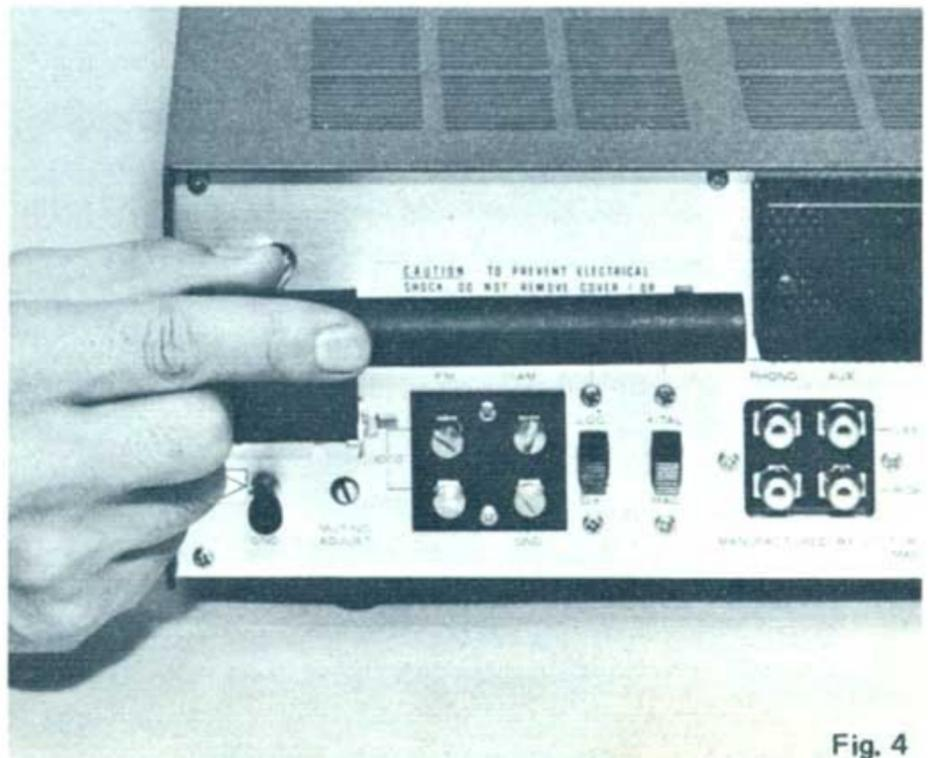

Fig. 4
**THE BAR ANTENNA:** A highly sensitive bar antenna for AM reception is located at the back of the set. In areas with weak radio signals, proper reception depends on the direction of this bar antenna. Before using the set, extend the bar antenna outward, Fig. 4. When the set is being carried, put the antenna back into position.